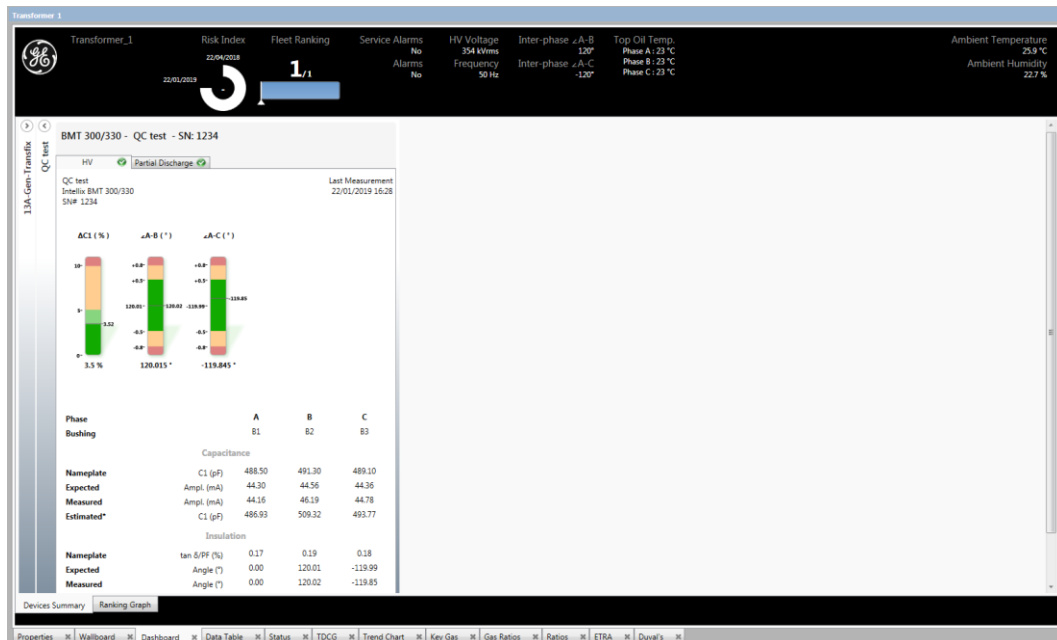

Figure 3-22: Transformer Dashboard > Devices Summary - BMT 330
The device summary for an Intellix BMT device is shown in Figure 3-22. Depending on the inputs, there are multiple tabs, Primary Input (HV) and Partial Discharge (an additional tab is shown if the Secondary Input is in use e.g. Low Voltage).